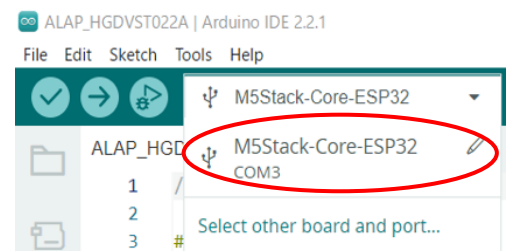

Fig.4
3. Select “M5Stack-Core-ESP32” or "M5Core" in [Select Board] and select COMxx which is connected with M5Stack (Fig.4).